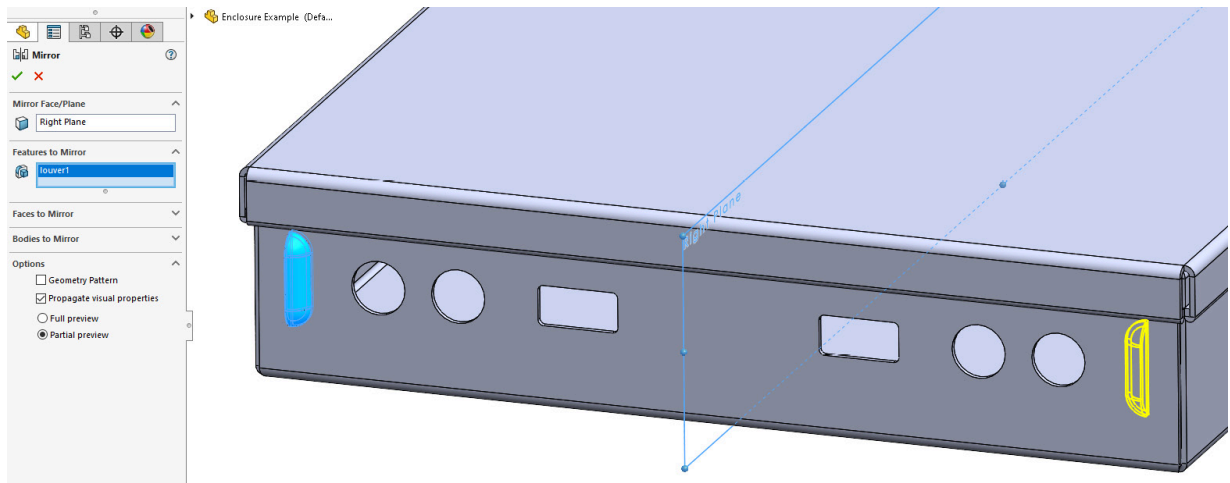

Figure 13.28 – Mirroring the formed handles
10. All that remains is to add a second formed handle to the other side of the front face. Select the **Mirror** tool (from the **Features** tab), and then set the Right Plane as the **Mirror Face/Plane** and the **louver** feature as **Features to mirror** (Figure 13.28). Press **OK** to add the second handle.